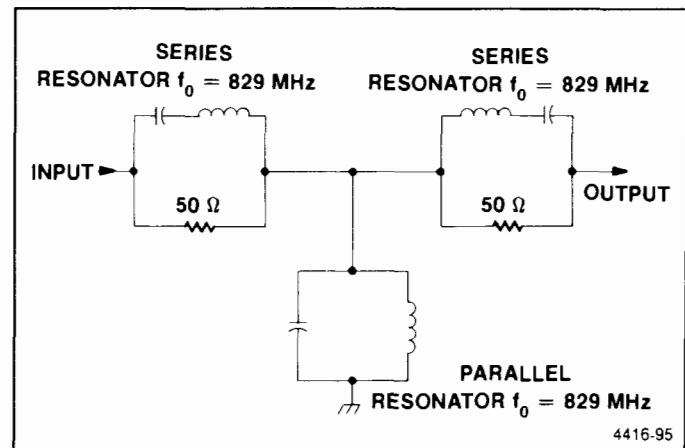

Figure 7-3. Simplified diplexer diagram.
**829 MHz Diplexer.** The 829 MHz Diplexer (A23A4) passes signals at 829 MHz with approximately 1 dB maximum attenuation and 200 MHz pass-band. Frequencies outside the pass-band but between about 50 kHz to 2 GHz are terminated in  $50\Omega$  loads with a match of at least 10 dB. Figure 7-3 shows a simplified schematic of the diplexer.
As shown in the schematic diagram, the diplexer contains components not shown in Figure 7-3. The  $50\Omega$  terminations are actually two pairs of  $100\Omega$  resistors, R1014-R1015 and R1011-R1012, connected in parallel to reduce load inductance. Small capacitors, C1010 and C1013, are connected across each load to improve impedance match at frequencies above the pass-band. The inductor in the parallel resonator is a printed length of transmission line that is tapped to establish the correct bandwidth. One end of this inductor is grounded through four capacitors so that dc bias from the 1st Local Oscillator Driver can be introduced to the 1st Mixer (A12) through this diplexer. Several capacitors are used in parallel to minimize inductance and circuit Q degradation. A low-pass filter is included in the bias line to minimize any noise from the 1st LO driver.